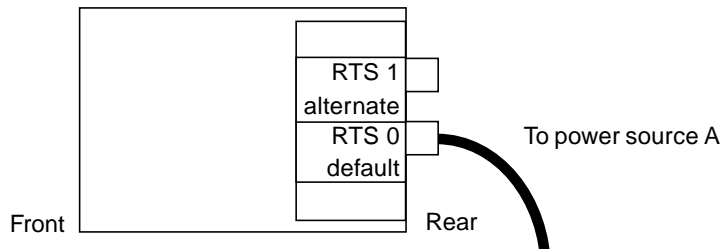

FIGURE 3-12 One RTU Assembly and One AC Power Sources
- In configurations with one RTU assembly and one AC power source there will be only one cable to connect (in the rear of the system on the left) (FIGURE 3-12). **Connecting the alternate RTS unit to an outlet that uses the same power source as the default RTS unit is not supported and will adversely affect reliability.**